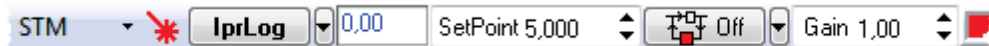

Fig. 10-6. Selecting the feedback input
- Select the **IprLog** signal as the feedback input (see Fig. 10-6).